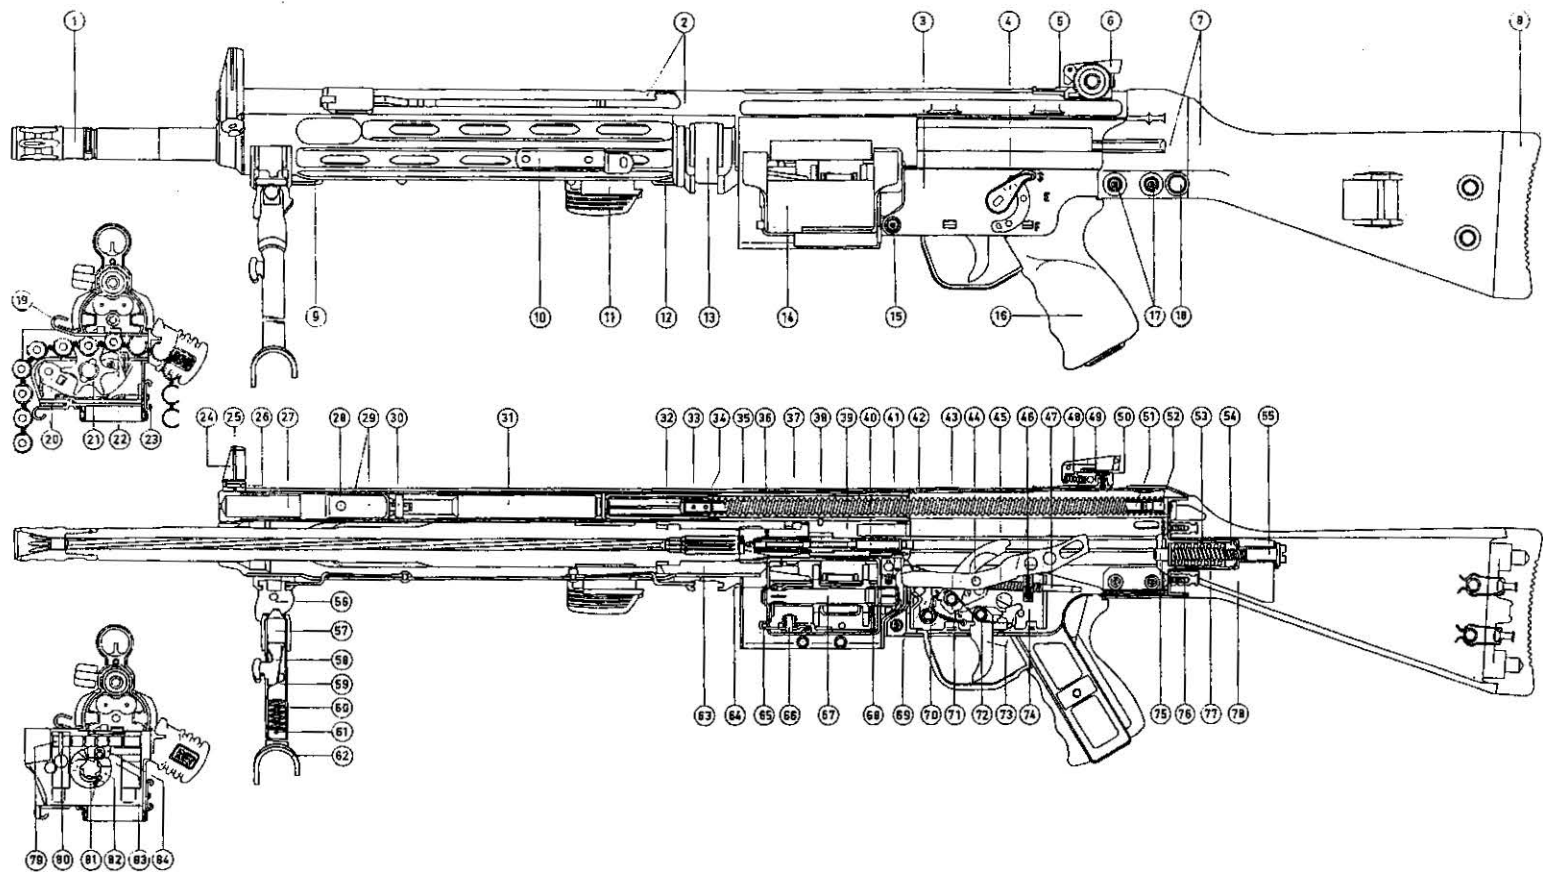

Figure 173. H21 section.
a. The basic functioning of the HK 13, HK 21, and HK 21A1 is identical to that of the G3 rifle (refer to paragraph 148 and figure 173).